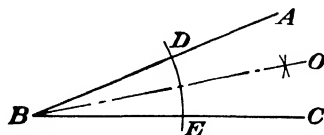

Fig. 116.
- a. Place the point of the compass at  $B$  (see Fig. 116).